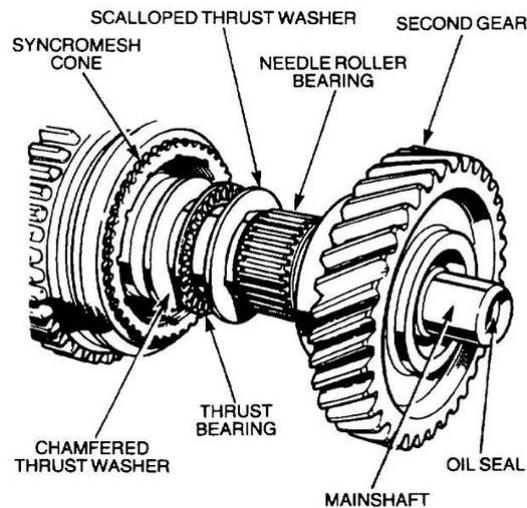

Figure 178 Installation of Second Gear
- e. Install a synchromesh cone along the mainshaft and engage the cone teeth in the first and second synchromesh sliding clutch (Figure 178).